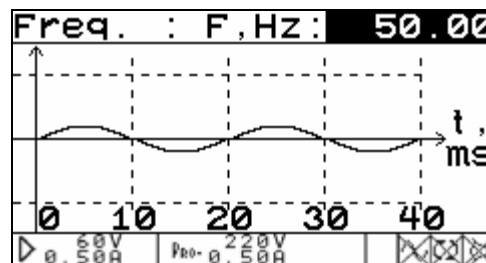

Fig. 4.8. Parameter setting window for signal frequency
-  — no monitoring of mains frequency is maintained at the moment. The Generator produces its output signals in accordance to the frequency specified by the “frequency” parameter (Fig. 4.8)).
The “Frequency” item, when enabled, opens the window (Fig. 4.8) where you can set fundamental frequency (i.e. frequency of the first harmonic) of the desired three-phase voltage/current system (☒). When the mains synchronization mode is enabled (☒), output frequency is determined by mains frequency. Otherwise (with “eye” icon), the Generator ignores frequency specification entered in this window.